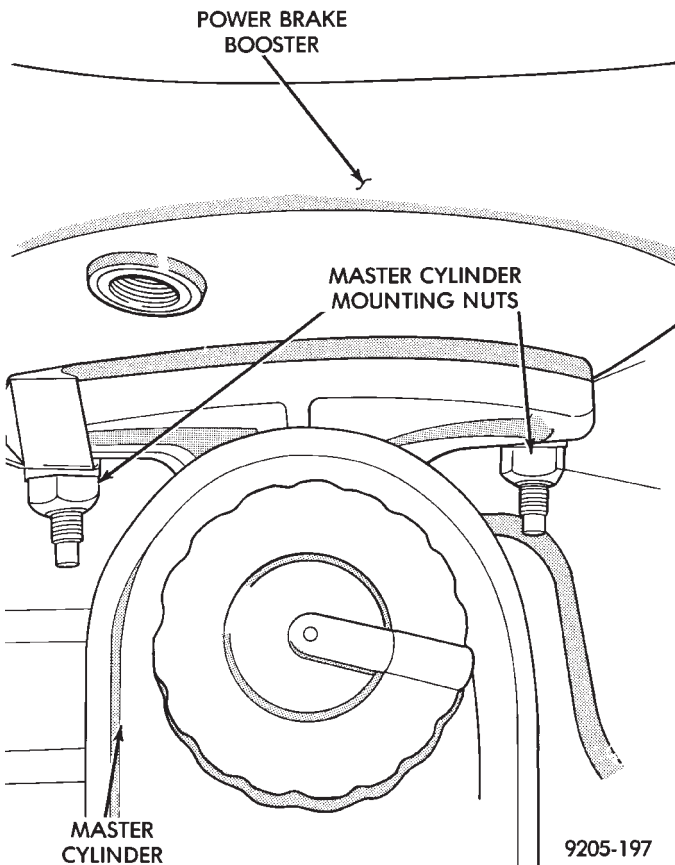
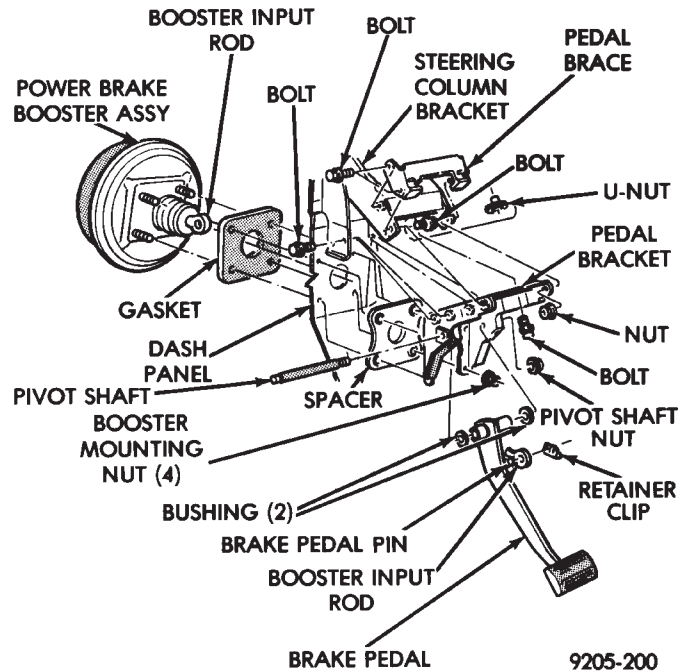

Fig. 6 Master Cylinder Mounting
Fig. 7 Power Brake Booster Mounting
(1) Remove the 2 nuts (Fig. 6) attaching master cylinder assembly to power brake unit.
(2) Carefully slide master cylinder off mounting studs with brake lines attached, and allow the assembly to rest against fender shield.
(4) From under instrument panel, position a small screwdriver between the center tang on the power brake booster input rod to brake pedal pin retaining clip.
(5) Rotate screwdriver enough to allow retainer clip center tang to pass over end of brake pedal pin and pull retainer clip off pin. **Discard retainer clip it is not to be reused, replace only with a new retainer clip.**
(6) Remove the four nuts that attach the power brake booster to the vehicle dash panel. Nuts are accessible from under the dash panel in the area of the steering column and pedal bracket (Fig. 7).
(7) Unfasten brackets on steel heater water line at
(1) Position power brake booster onto dash panel.
(2) Install and tighten the 4 power brake booster to dash panel mounting nuts (Fig. 7) to 29 N•m (250 in. lbs.) torque.
(3) Install steel heater water line and clutch cable bracket, if so equipped.
(4) Carefully position master cylinder on power brake unit.
(5) Install and tighten the 2 master cylinder to power booster mounting nuts (Fig. 6) to 29 N•m (250 in. lbs.) torque.
(6) Connect vacuum hose onto the check valve, located on the power brake unit.
(7) Using lubriplate, or equivalent, coat the bearing surface of pedal pin (Fig. 7).
(8) Connect power brake booster input rod to brake pedal pin and install a NEW retainer clip. **Use only a new retainer clip DO NOT USE the old clip.**
(9) Check stop light operation.